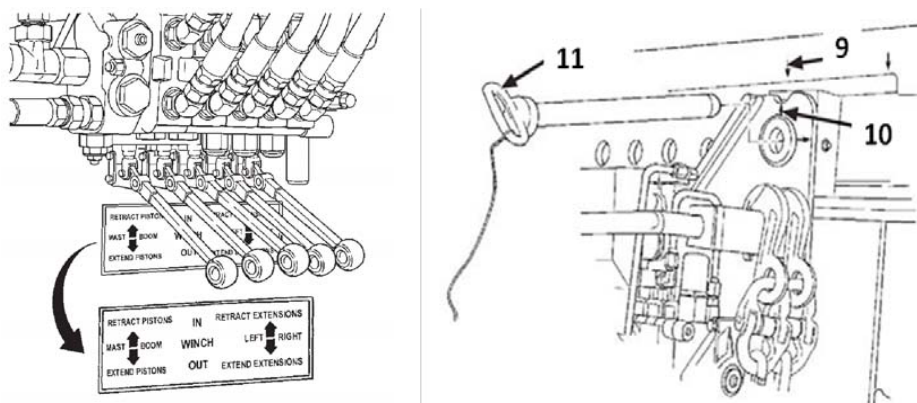

Figure 5 – Valve control levers and mast alignment for pivot pin insertion
- Using valve control levers or remote control, MAST RETRACT to line up pivot arrows (9 and 10). (figure 5)